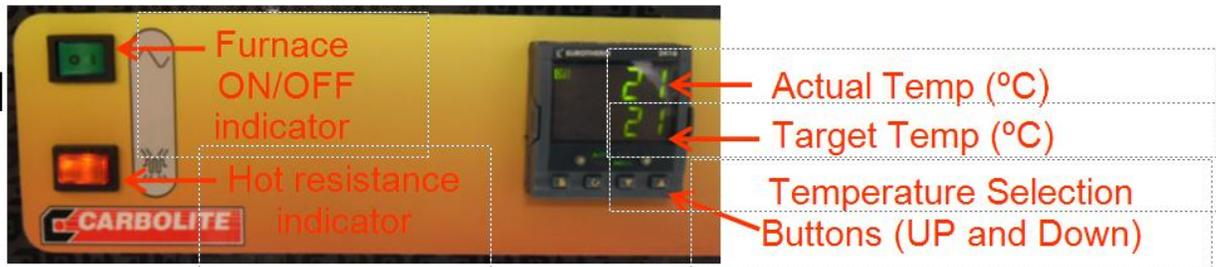

Fig.1 Control Panel of furnace
1. Set the furnace temperature to 1000°C (see Fig.1).